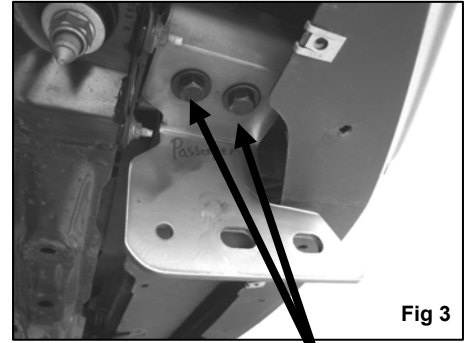

Fig 3
4. Determine passenger and driver side Mounting Brackets. Hang passenger side Mounting Bracket into position by partially threading (2) 12-1.75mm x 35mm Hex Head Bolts, (2) 12mm Lock Washers, and (2) 12mm Flat Washers through factory holes and into previously inserted Double Nut Plate (Figure 3).